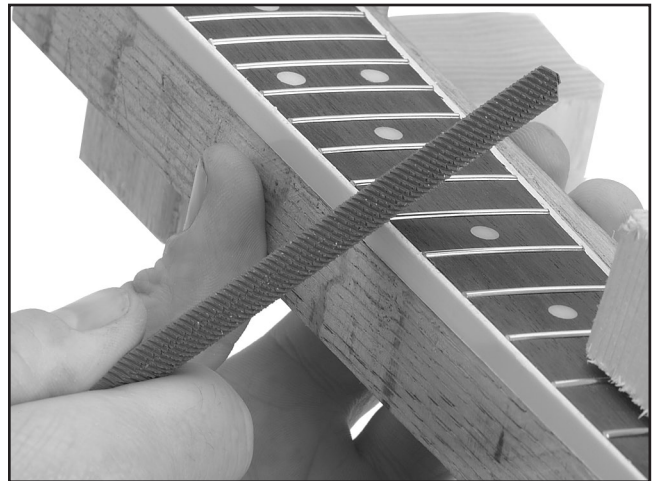

Figure 29. Filing fret ends.
2. Use a file to angle the metal fret ends, as shown in **Figures 29**.